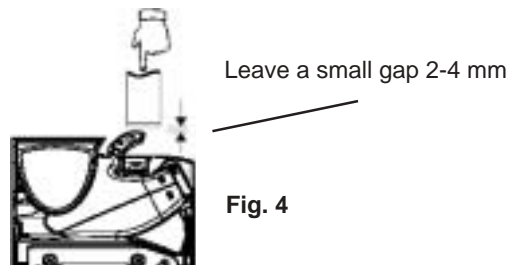

Fig. 4
- Once the coin manager is installed, check that there is a small gap (2-4 mm) between the coin return Mechanism on the vending machine and the return lever on the coin manager (See Fig 4). Check that when you press the coin return lever on the machine door, it fully opens the acceptor lid on the coin manager then returns smoothly without holding the lid open.